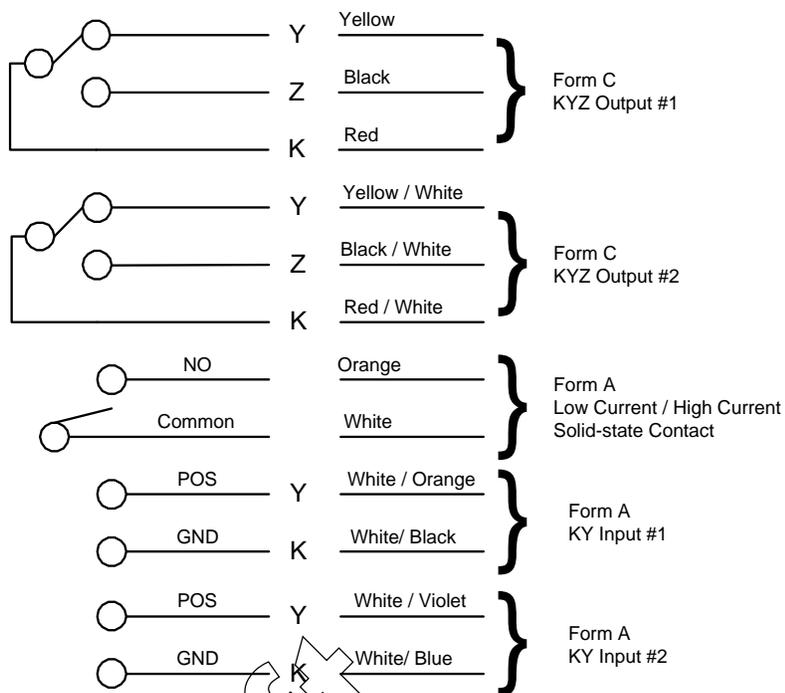

Figure 1.8 Input/Output Option 4 & Supplemental Option 2
- Option 4 has two Form C KYZ outputs, one Form A low-current solid-state contact output, and two Form A KY pulse inputs. (See Figure 1.8 on page 1-9.)